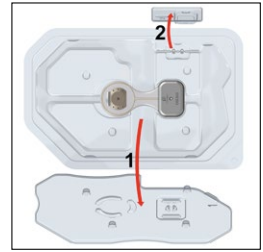

Fig.21: Packaging of the OSI300 Implant
5. Open up the sterile packaging (*Fig.21*) and gently remove the lid above the implant (marked number 1) as well as the lid above the fixation screws (marked number 2). Two fixation screws are available, but only one of them is needed to fix the OSI300 Implant to the BI300 Implant.